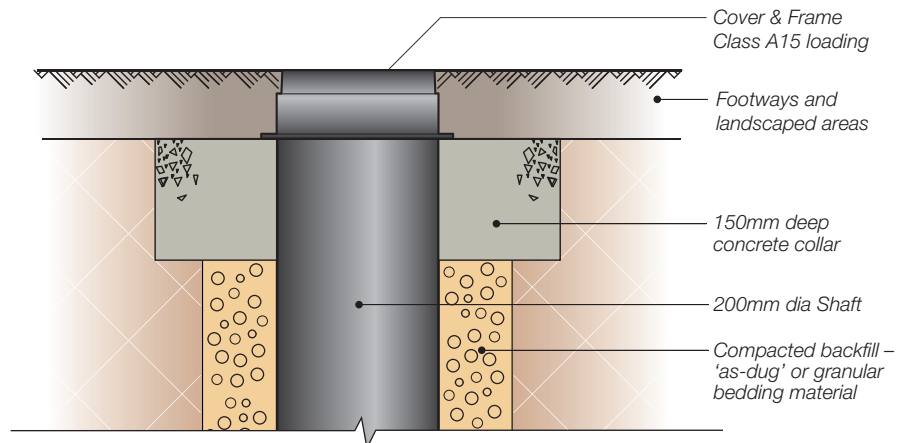

Fig.6. Installation detail A15 – areas subject to occasional vehicle loading up to 15kN (1.5 tonnes)
For **A15** applications subject to occasional/temporary vehicle loading up to 15kN (1.5 tonnes) such as domestic driveways, the frame should be supported by a concrete plinth. (See Fig. 6).
***For A15 applications subject to occasional vehicle loading up to 15kN (1.5 tonnes)** (See Fig.6)